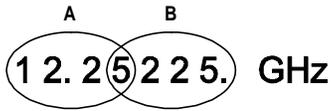

Figure 7. Downlink frequency low and high-resolution display
Downlink frequency: (see Figure 7) For example; if the current Downlink frequency is 12.25225 GHz, changing to Alt-1 Mode (ALT LED flashes) and then pressing 7 displays the four most significant digits on the front panel (i.e., 12.25). At low resolution (A), pressing the up \uparrow or down \downarrow arrow button advances the frequency up or down in 10 MHz steps (i.e., 12.26, 12.27, and so on). Pressing and holding down the up \uparrow or down \downarrow arrow button will increase the step size further.